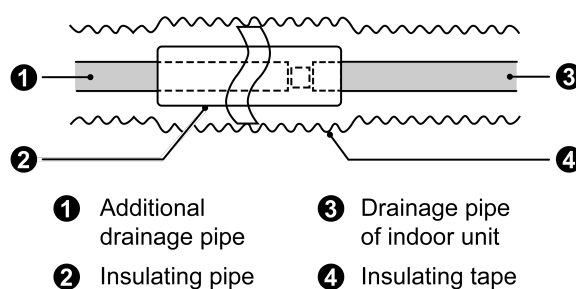

Fig.4.3.1
- (1) It is not allowed to connect the condensate drain pipe into waste pipe or other pipelines which are likely to produce corrosive or peculiar smell to prevent the smell from entering indoors or corrupt the unit.
- (2) Incorrect installation of the indoor unit may result in inadequate drainage, potentially causing bacterial growth and associated health hazards. Inadequate drainage may also lead to corrosion of the unit.
- (3) Setting the unit at an angle opposite to the drain piping might cause leaks.
- (4) It is not allowed to connect the condensate drain pipe into rain pipe to prevent rain water from pouring in and cause property loss or personal injury.
- (5) Condensate drain pipe should be connected into special drain system for air conditioner.
- (6) The drainage pipe should be short and the gradient downwards should be at least 1%~2% in order to drain condensation water smoothly.
- (7) The diameter of drainage hose should be bigger or equal to the diameter of drainage pipe joint.
- (8) Install drainage pipe according to the following Fig.4.3.1 and arrange insulation to the drainage pipe. Improper installation may lead to water leakage and damp the furniture and other things in the room.
- (9) You can buy normal hard PVC pipe used as the drainage pipe. During connection, insert the end of PVC pipe into the drainage hole and then tighten it with drainage hole and wire binder. Can't connect the drainage hole and drainage hole with glue.
- (10) When the drainage pipelines are used for several units, the position of pipeline should be about 100mm (4 inch) lower than the drainage port of each unit. In this case, thicker pipes should be applied.